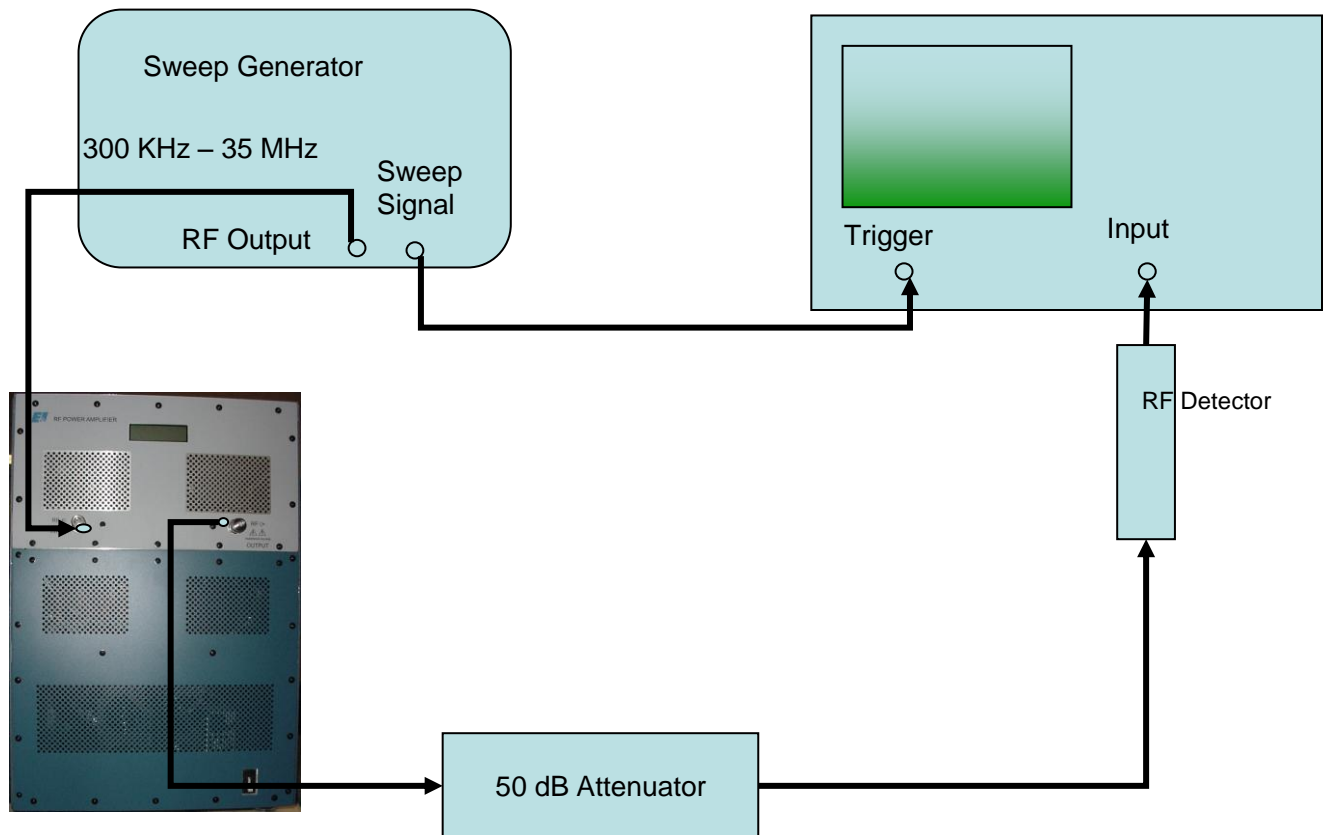

Figure 4-1. Gain Measurement
#### 2. Connect the equipment as shown in Figure 4-1, then proceed as follows:
- g) Reconnect the A500 into the test set-up of Figure 4-1.